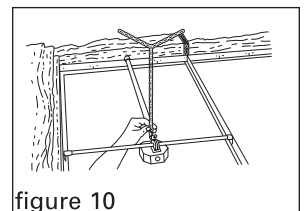

figure 10
9. Using one of the S-hooks, attach the chain to the turnbuckle at the top of the electrical box bracket. Use the turnbuckle to adjust the chain so that all of the weight is supported by the chain and not by the ceiling grid (figure 10).